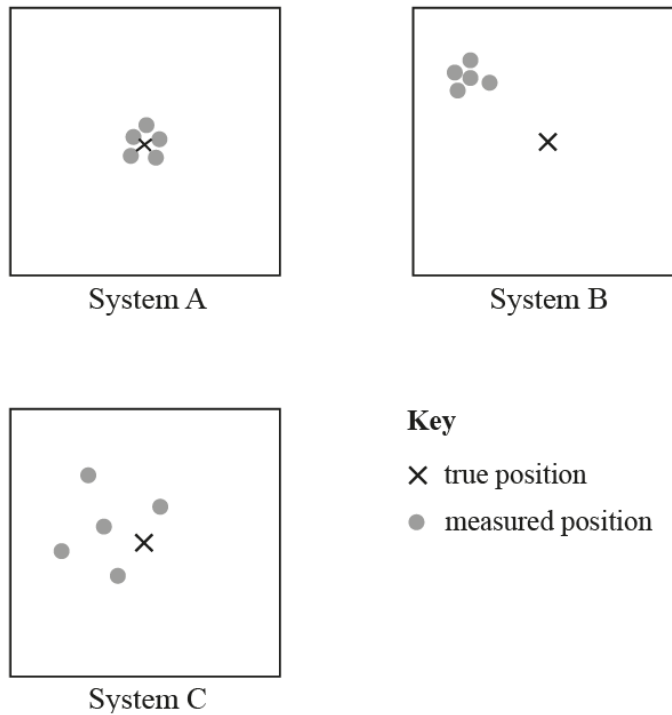

Fig. 1
- 1 (a) Three automatic positioning systems are being tested for quality. The results for each system are shown in Fig. 1.